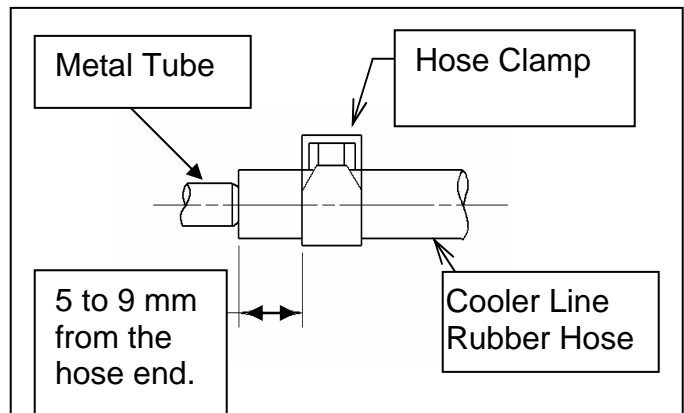

Figure 3
- Position clamps on the rubber hoses as shown in Figure 3.